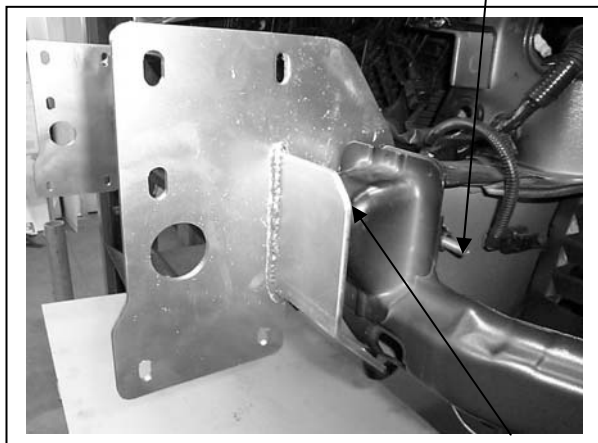

Figure 3 0-3mm clearance here
12. Insert 40x6 alloy washer plate (supplied) between chassis and steel spacer welded to steel mounting bracket. Insert 3/8 x 5 1/2 bolt (supplied) from steel mounting bracket side into chassis. Slide chassis spacer tube (supplied) over bolt. **See figure 3.** Attach 75 x 50 x 6 alloy plate over bolt. Use 3/8 nut/washers (supplied). **FINGER TIGHTEN ONLY.**